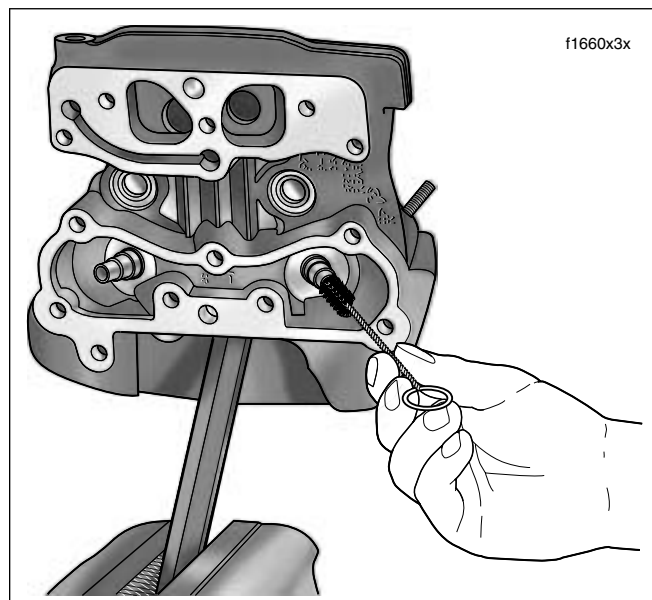

Figure 3-22. Scrub Valve Guide Bore
9. Direct compressed air into the valve guide bore to remove any debris and then clean with the VALVE GUIDE CLEANING BRUSH (HD-34751). See Figure 3-22.